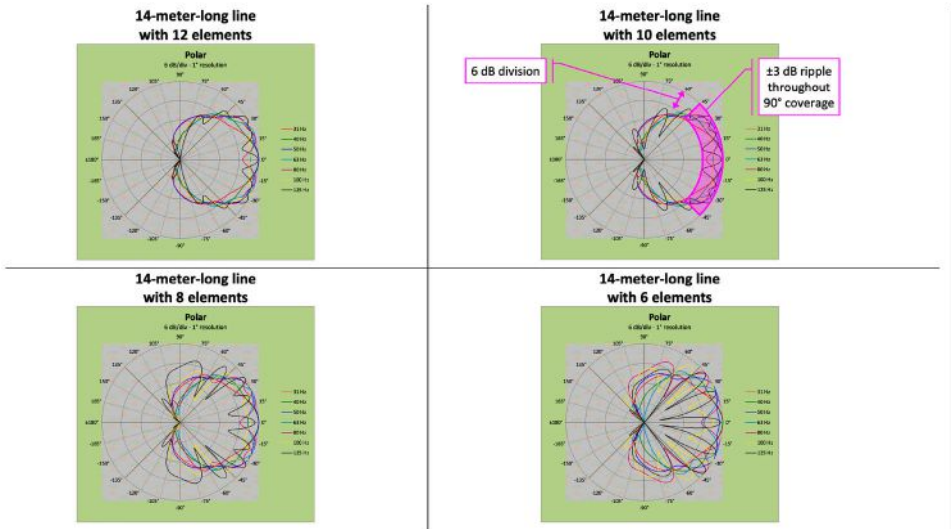

Figure 4
Figure 4 provides more of the same for select third-octave frequencies. When an array has been properly designed, its polar plot for all frequencies of interest exhibits at most 6 dB of ripple, which is within its intended 90-degree coverage angle.
1) and both polar plots (Figure 4), as well as frequency responses (Figure 5) all exhibit ripple in excess of 6 dB.